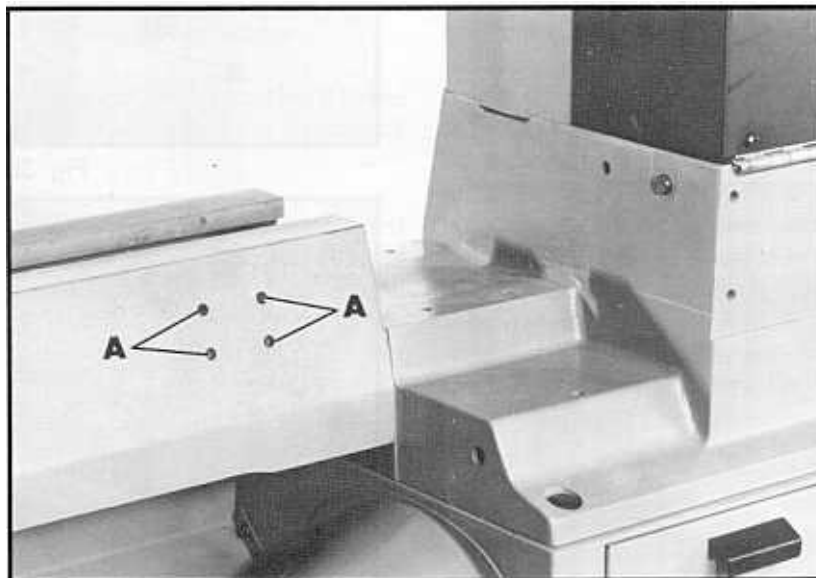

Fig. 42
The safety shield supplied with your lathe is shipped in a separate carton along with assembly instructions for mounting to the four holes (A) Fig. 42, located on the rear of the lathe bed. Locate these instructions and mount the safety shield to your lathe.